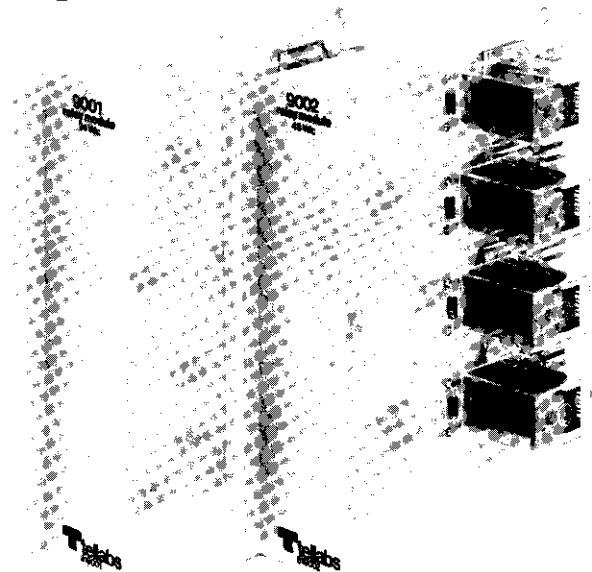

figure 1. 9001 and 9002 Relay Modules
1.01 The 9001 and 9002 Relay Modules (figure 1) each provide four independently operated relays for use in a variety of applications, including loud-speaker cutoff and data transfer. The relays each provide four sets of form C transfer (break before make) contacts.